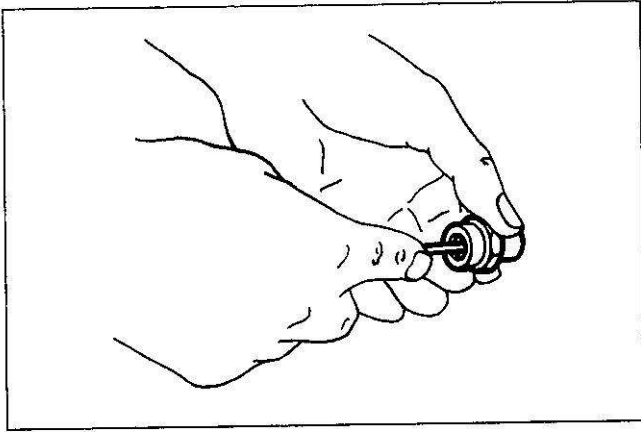

Figure 18. Checking Check Valve Operation
- Check valve. Apply a light pressure onto the check valve with a screwdriver and check the valve to be sure it's operating smoothly (figure 18).